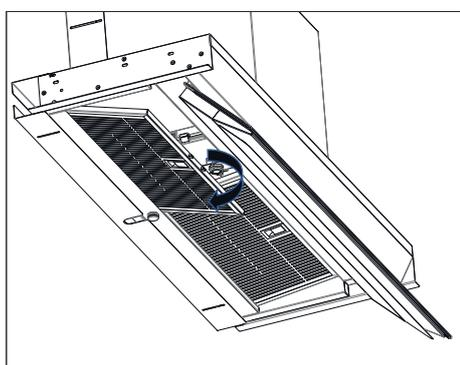

Fig. 24
1. → ... metal grease filters () of your appliance (Fig. 24).